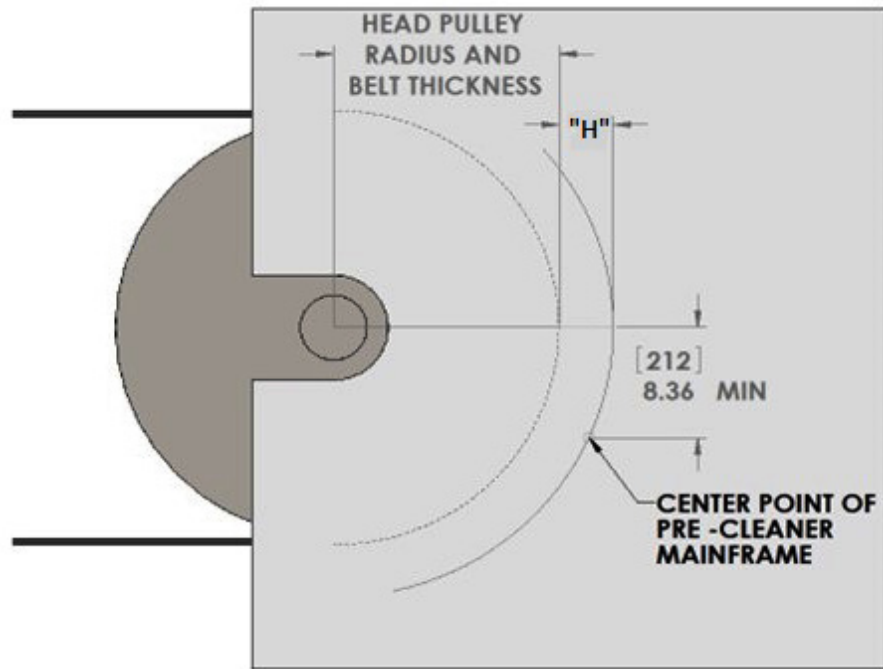

Figure 3
Method 1 - Using Figure 3 and Table 1
1. On an available side chute wall, draw horizontal line from the center point of head pulley shaft as shown in Figure 3.
6. From the Arc Radius Length, "Step 3", draw arc down intersecting the 8-3/8" as shown in Figure 3.